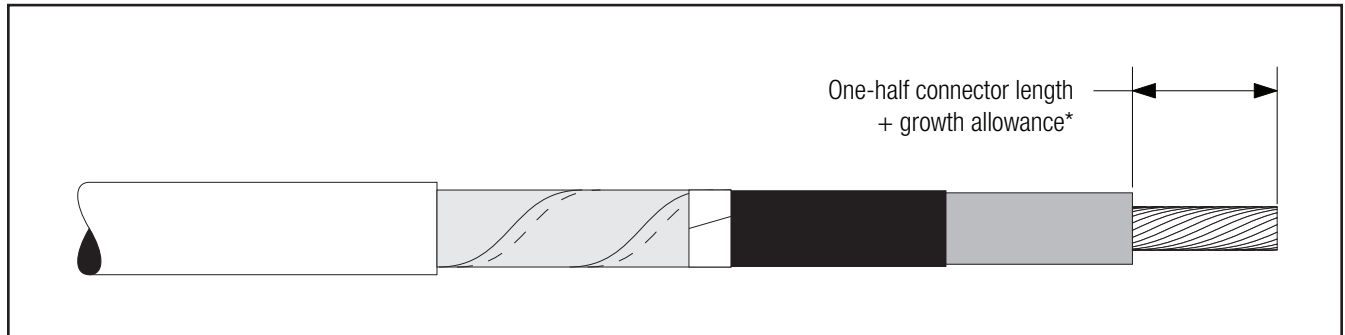

Figure 14
4.3 If using a crimp type connector, remove cable insulation for 1/2 connector length plus an allowance* for increases in connector length due to crimping. Insulation removal length shall not exceed 2 7/8" (73 mm) from conductor end. Do not install connector now (Figure 14).